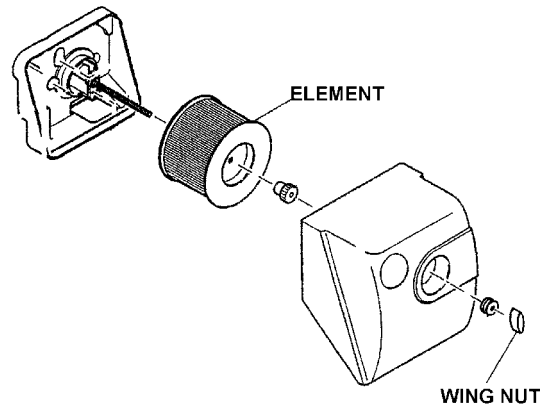

Figure 12. Engine Air Cleaner
1. Loosen the wing nut and detach the cover of the air cleaner shown in Figure 12.
2. Tap the element (Figure 12) several times on a hard surface to remove dirt, or blow compressed air [not exceeding 30 psi (207 kPa, 2.1 kgf/cm²)] through the element side. **NEVER** wash the element with detergent because the element is oil-soaked type. Replace the element when the output decreases or bad exhaust color is noticed